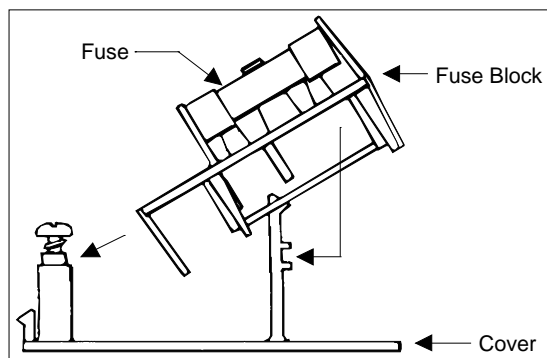

Figure 2-5
4. Remove the fuse block (Figure 2-5) by sliding it up and away from the screw. Lift the block from the pedestal.